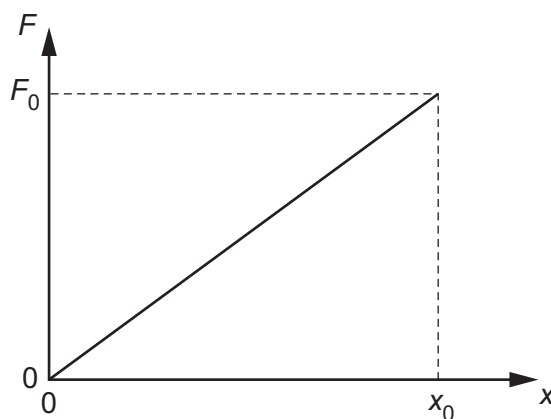

Fig. 3.2
- (d)** The variation of the force F acting on the spring with the compression x of the spring is shown in Fig. 3.2.